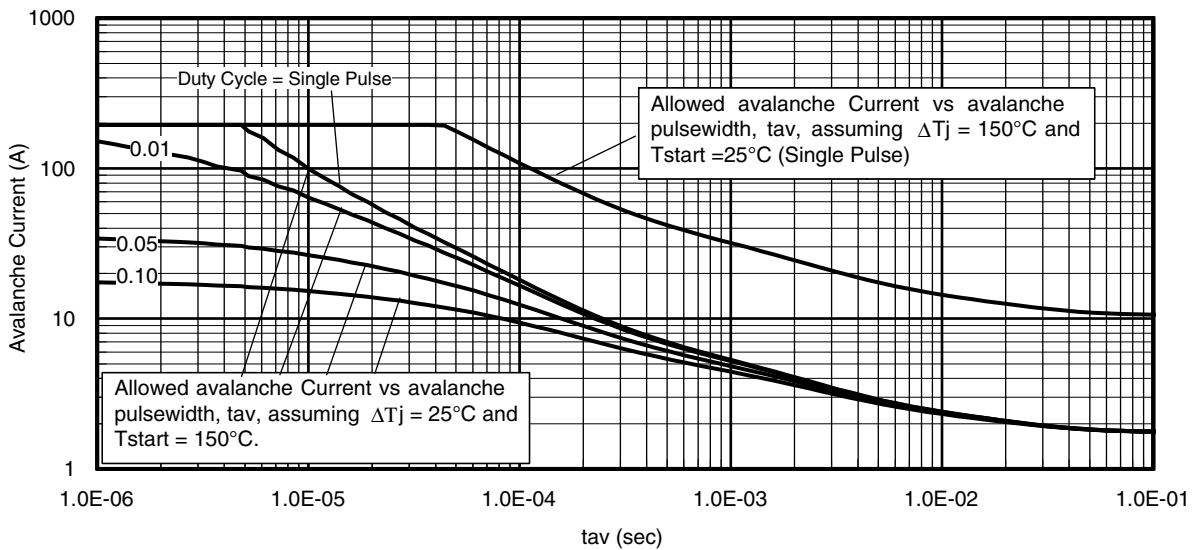

Fig 14. Typical Avalanche Current vs. Pulsewidth
| I_{AR} | Avalanche Current ② | See Fig. 14, 15, 22a, 22b | A |
Notes on Repetitive Avalanche Curves, Figures 14, 15:
7. ΔT = Allowable rise in junction temperature, not to exceed T_{jmax} (assumed as 25°C in Figure 14, 15).